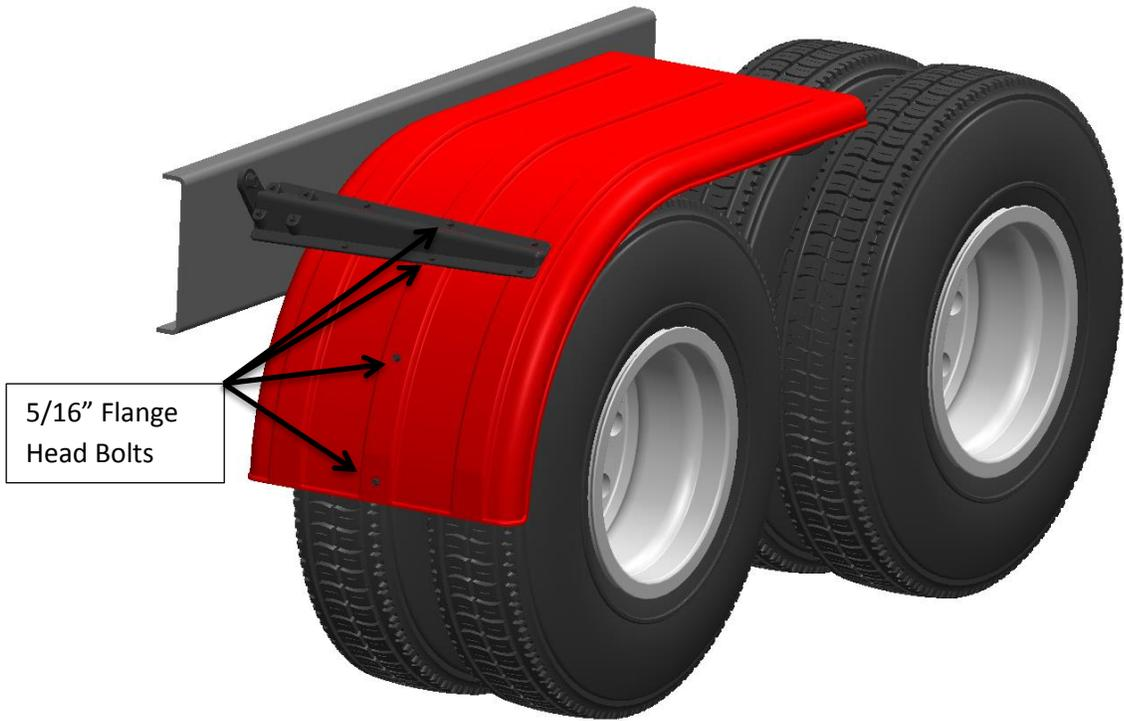

Figure 3 - View of 5/16" Fasteners (MIN 950)
5. Drill 5/16" clearance holes in the fender to attach the reinforcement strip to the fender and bracket assembly. Two of the holes should be in the same location as the center mounting bracket bolts. Use a minimum of four bolts per strip. See Figure 3 below for recommended fastener locations.